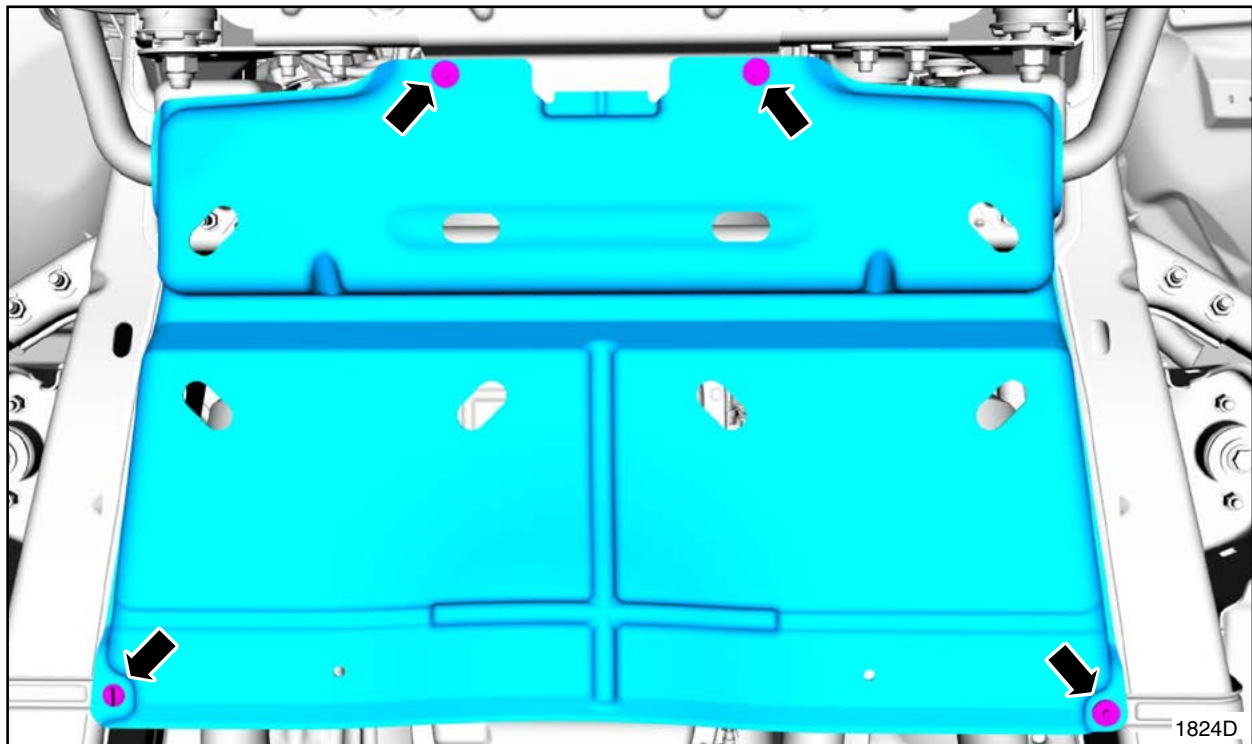

FIGURE 1
3. If equipped, remove the retainers and the splash shield. See Figure 1.
17. If equipped, install the splash shield. See Figure 1.